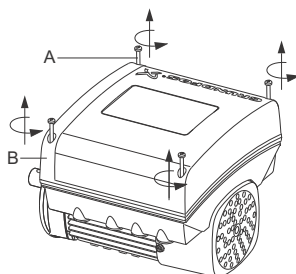

Fig. 56 Removing the terminal box cover
1. Loosen the four screws (fig. 56, A) and remove the terminal box cover (fig. 56, B).
11. Fit the terminal box cover (fig. 56, B) and cross-tighten the four mounting screws (fig. 56, A) to 6 Nm.